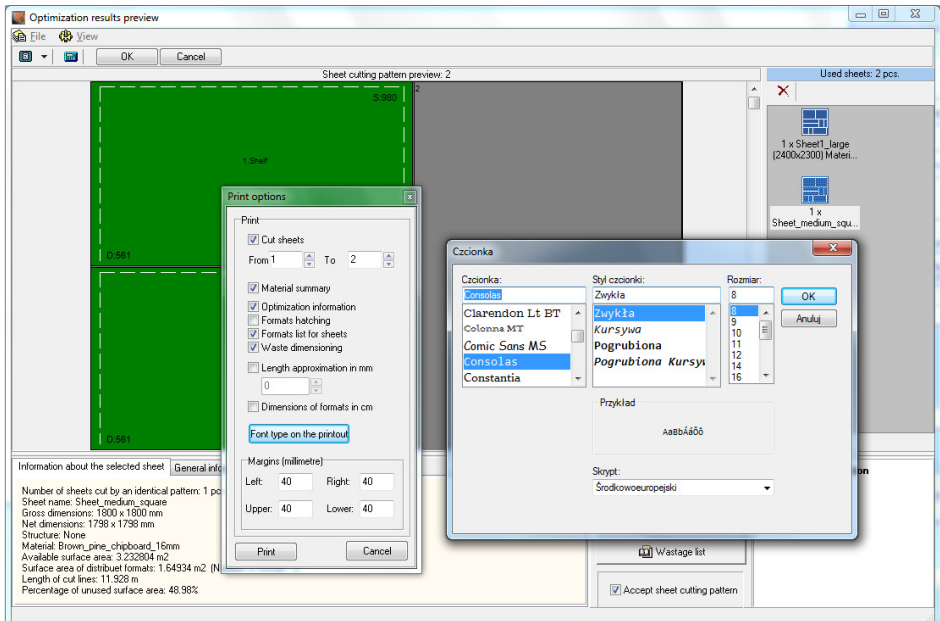

Fig. 78 – 'Print options' window, font selection
- '**Print optimization report [Ctrl + P]**' – opens the '**Print options**' window (Fig. 78 on the next page); after setting them you can print all obtained images of optimal cutting patterns with their descriptions.